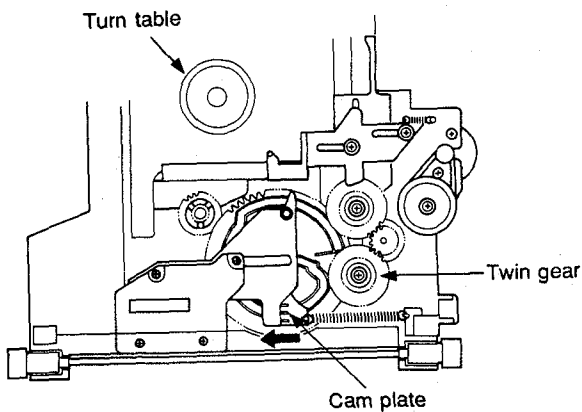

Fig. 3
- ③ Push the cam plate (Fig. 3) in the direction of the arrow and wait until the CD disc is clamped.
- ③ Press the SKIP REV (◀◀) key to raise the turn table (spindle motor section) while pressing the cam plate (Fig. 3) in the direction of the arrow. Raise it to the position where the LD disc can be easily placed on the turn table. If the turn table is raised too high, lower it with the SKIP FWD (▶▶) key.
- ④ Place the LD disc on the turn table and press the PLAY (▶) key once to clamp the disc.
- ⑤ Press the ◀◀ or ▶▶ keys to appear "S-LD" on the TV screen display.